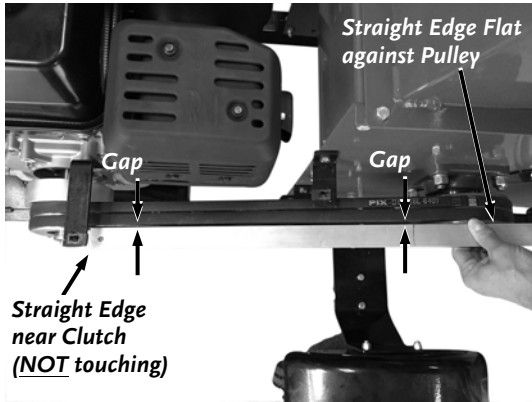

Figure 18
1. Check the alignment between the Clutch and the Drive Pulley by placing one end of a Straight Edge flat against the face of the Drive Pulley with the other end near the top portion of the Clutch (next to the Belt but not touching the Clutch) (Figure 18).